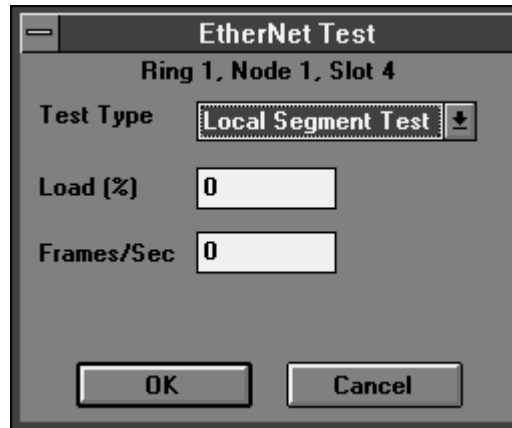

Figure 3-5. Ethernet Test Selections
3. Select one of the options from the Ethernet Test selection box in Figure 3-5. The choices are:
This procedure is identical to the Ethernet I/O module procedure described earlier in this chapter. Refer to Figure 3-5 for an example and Table 3-2 for an explanation of the fields.